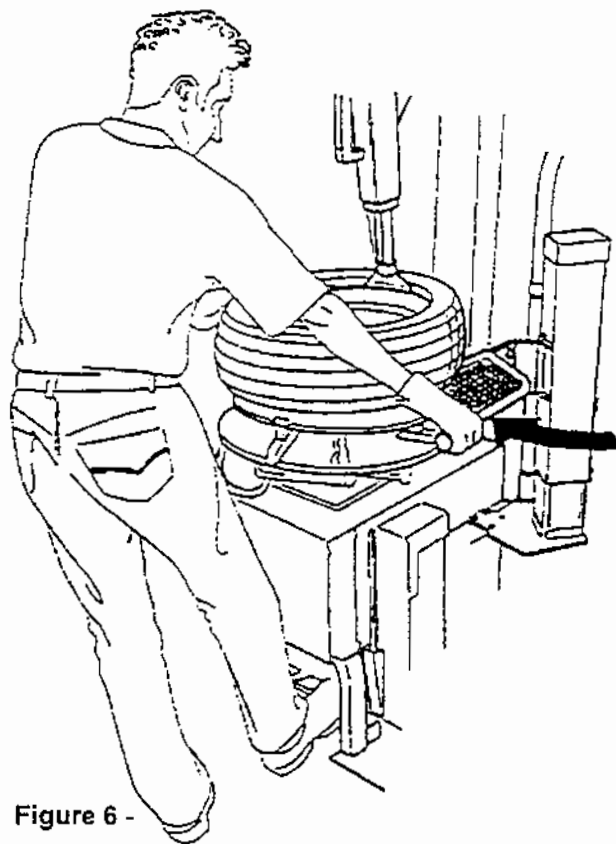

Figure 6 -
B. Lower the column, position the lower bead-push device next to the lower rim edge. Hold the handle firmly, press the raise button and at the same time rotate the turntable (Figure 6). This operation allows to loosen the bead if this is stuck and helps lifting the tire.